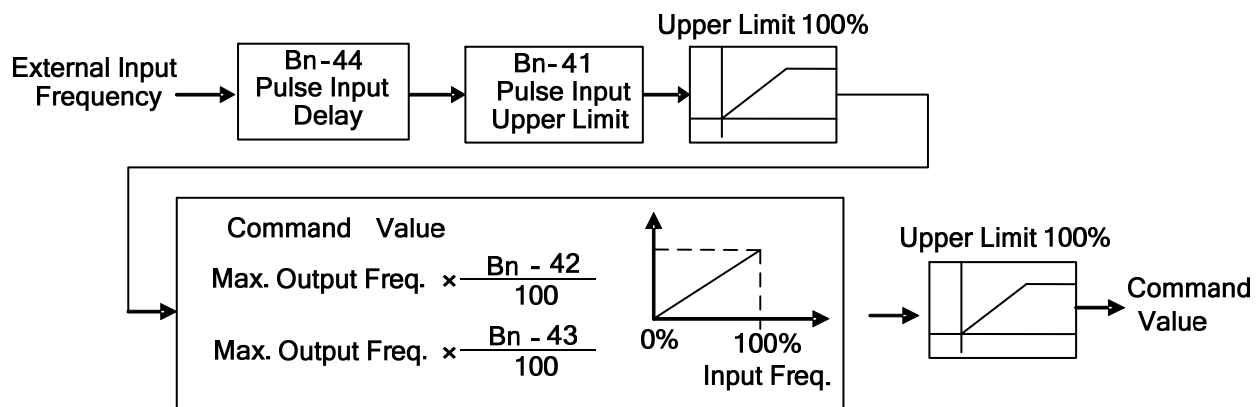

Fig. 9.2.1.6 Pulse Input Function
- Refer to the following Fig.9.2.1.6.